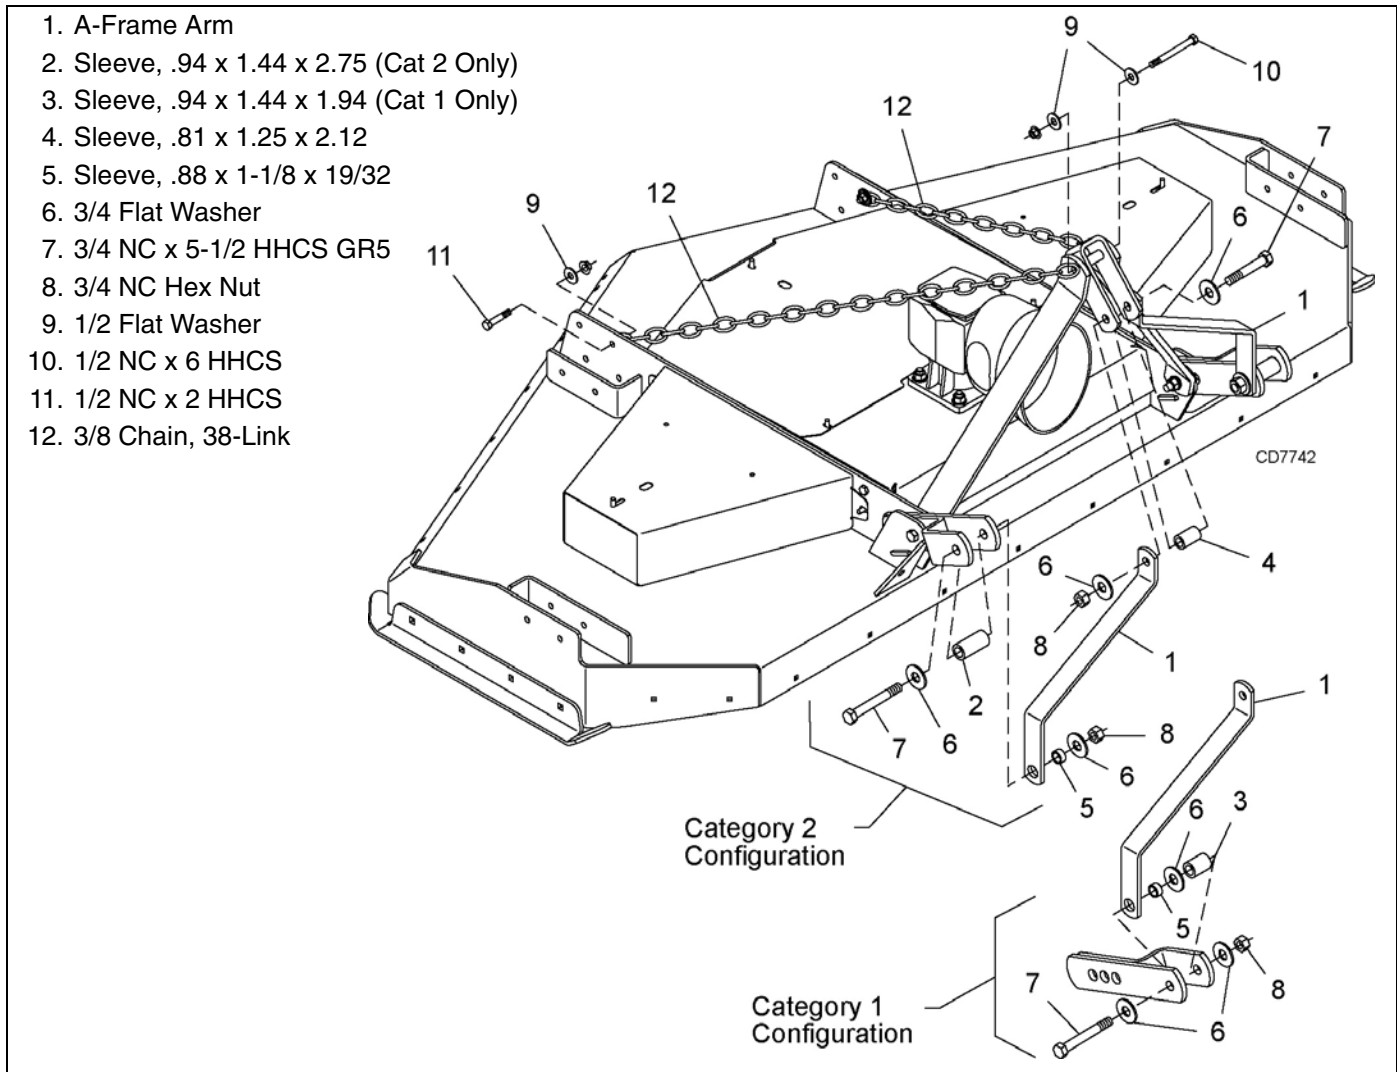

Figure 33. Quick Hitch Kit Installation (Optional)
1. Lower hitch arms must be located in center attachment hole. See Figure 33 for adjustment.
4. Attach A-Frame arms (1) and sleeve (2) to lower hitch arms using cap screws (7), sleeve (5), washers (6) and hex nut (8).
5. Attach upper end of A-Frame arms (1) and sleeve (4) to U-bracket, using cap screw (7), washers (6) and hex nut (8).
6. Remove rear offset links. They will be replaced with chains (12).
7. Attach chains (12) to top of A-frame on both sides as shown, using cap screw (10), washers (9), and flange lock nut.
8. Attach opposite ends of chains (12) to rear mower frame using cap screws (11), washers (9), and flange lock nut. Vary length slightly as desired. Twist chain to make finite adjustments in length until unit lifts level.